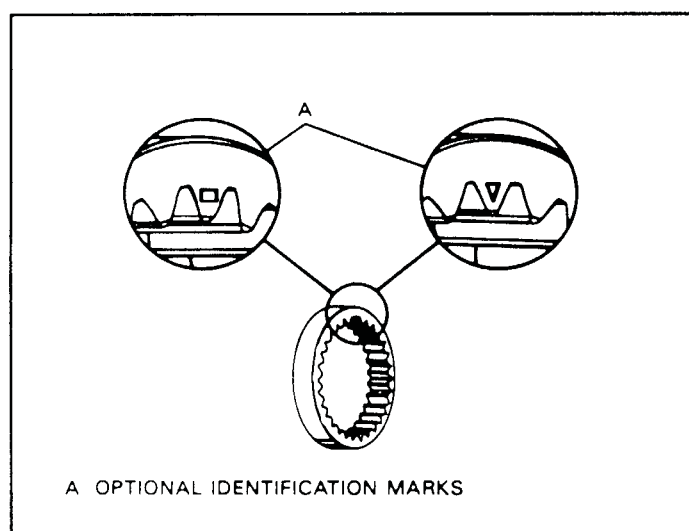

Figure 97
5. Install the outer pump gear into the pump body with the identification marks (See Figure 97) facing "DOWN" towards the pump pocket.